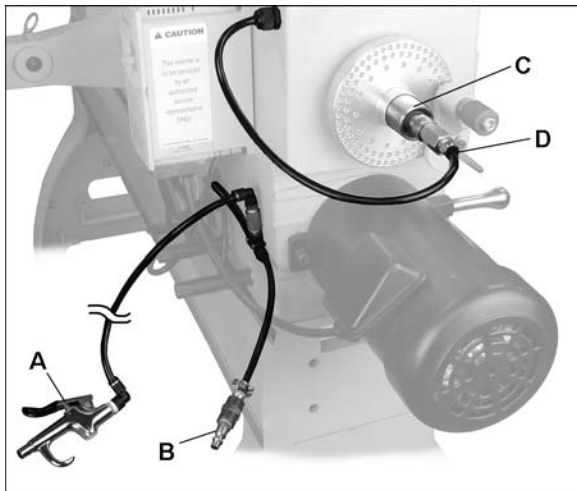

Figure 12
Connecting pressurized air to the lathe allows use of the air blow gun and the vacuum chuck. See Figures 12 and 13.
1. Connect blow gun hose (A, Figure 12) to the tee connector.
2. Connect your incoming air supply (90 psi) to the quick connect coupler (B).
3. Attach vacuum adaptor (C) to hose (D) and push adaptor into spindle.